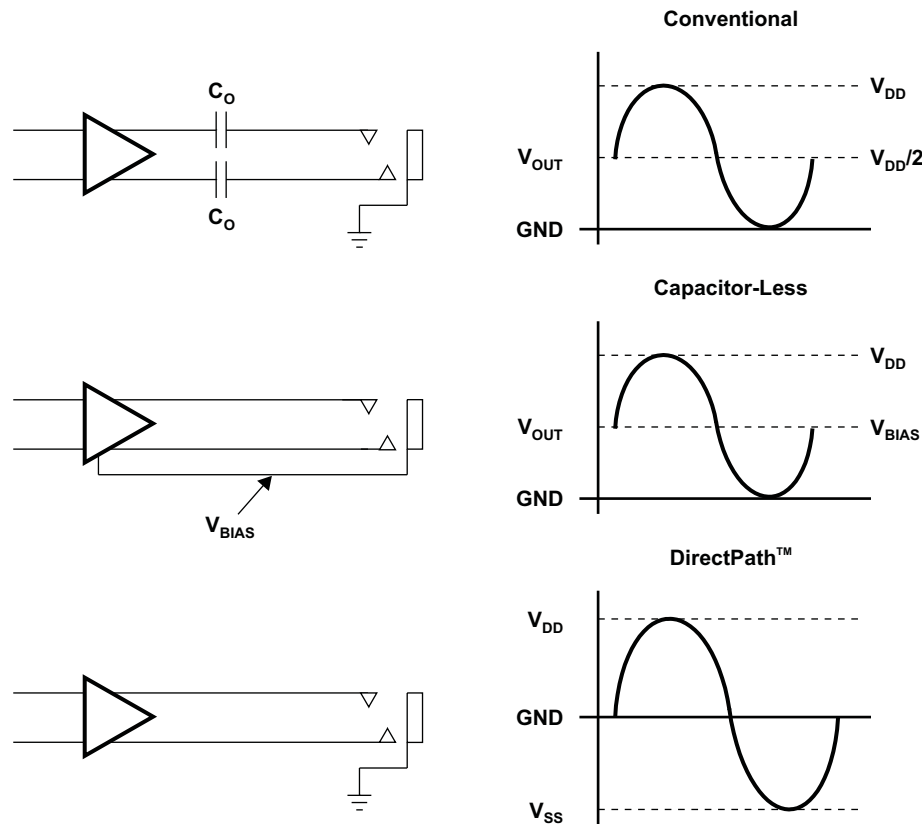

Figure 37. Amplifier Applications
The headphone amplifier has a fixed gain of -1.5 V/V. It uses single-ended (SE) inputs. The DirectPath™ amplifier architecture operates from a single supply but makes use of an internal charge pump to provide a negative voltage rail. Combining the user-provided positive rail and the negative rail generated by the IC, the device operates in what is effectively a split supply mode. The output voltages are now centered at zero volts with the capability to swing to the positive rail or negative rail. The DirectPath™ amplifier requires no output dc blocking capacitors and does not place any voltage on the sleeve. The block diagram and waveform of Figure 37 illustrate the ground-referenced headphone architecture. This is the architecture of the TPA6047A4.
Single-supply headphone amplifiers typically require dc-blocking capacitors. The capacitors are required because most headphone amplifiers have a dc bias on the outputs pin. If the dc bias is not removed, the output signal is severely clipped, and large amounts of dc current rush through the headphones, potentially damaging them. The left-side drawing in Figure 37 illustrates the conventional headphone amplifier connection to the headphone jack and output signal.
Two different headphone amplifier applications are available that allow for the removal of the output dc blocking capacitors. The capacitor-less amplifier architecture is implemented in the same manner as the conventional amplifier with the exception of the headphone jack shield pin. This amplifier provides a reference voltage, which is connected to the headphone jack shield pin. This is the voltage on which the audio output signals are centered. This voltage reference is half of the amplifier power supply to allow symmetrical swing of the output voltages. Do not connect the shield to any GND reference, or large currents will result. The scenario can happen if, for example, an accessory other than a floating GND headphone is plugged into the headphone connector. See the second block diagram and waveform in Figure 37.